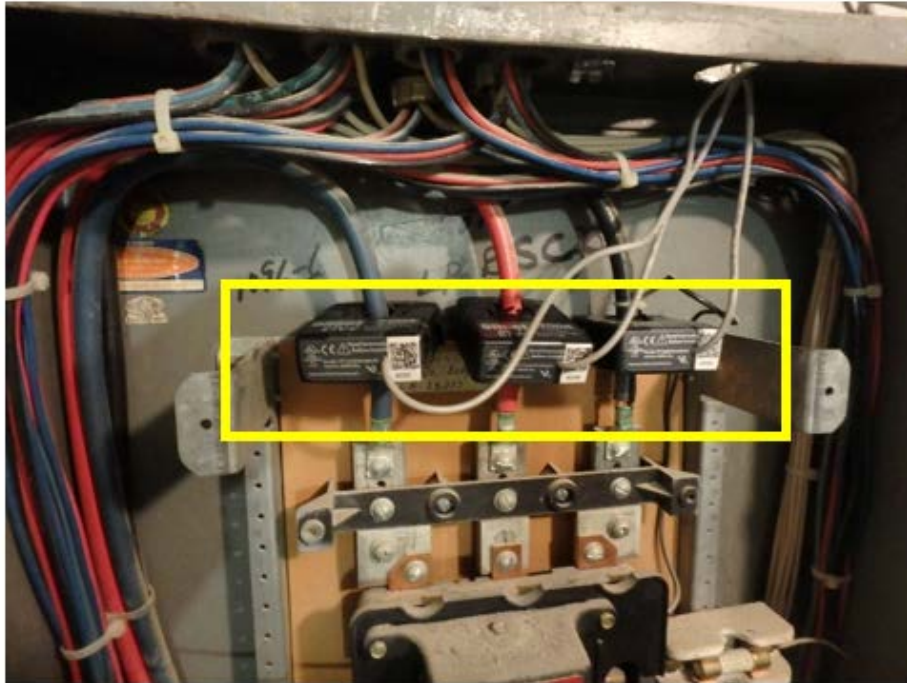

Figure A.4.13: Three Onset HOBOSplit-Core AC Current Transformers installed onto the main feed of a panelboard for a lighting system.
6. Make sure that the wire is securely held in the Onset HOB0 Split-Core Current Sensor to ensure the wire stays in place as shown on Figure A.4.11, Figure A.4.12, and Figure A.4.13.
8. If multiple Onset HOBO Split-Core Current Sensors are needed (see Figure A.4.13), repeat steps 4 to 7.